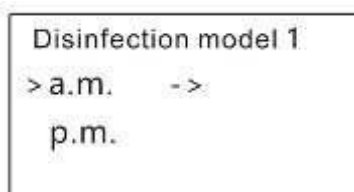
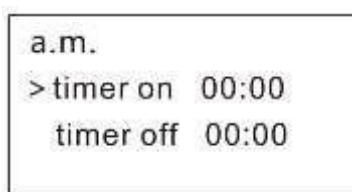

Figure 9
Figure 8
- e. When set Timer-1, the start time and end time setting are required, divided into morning and afternoon. Press  button to page 1/2. Move the cursor to Timer-1. Press  button into morning time setting (shown as figure 9). Press  to set the start morning session running time by  /  buttons (1-12 hours), same to set end time (shown as figure 8). Save and back to  LCD, is shown, as (figure 7). Timer-1 is running. Note: end time must be larger than start time, or system defaults no setting time.